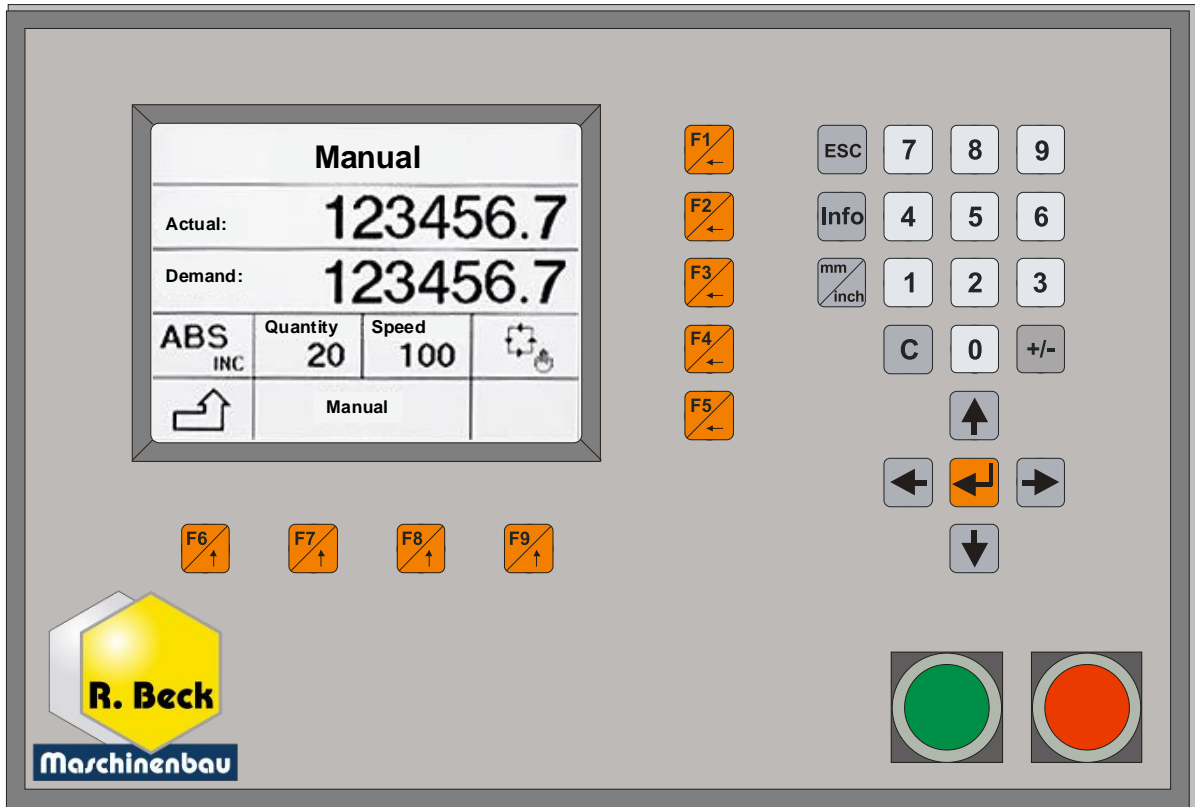

Figure 11: Keyboard and display functions of the PS 811P control unit
- To start the reference run, press the green **START** button (refer to ⇒ Figure 11).